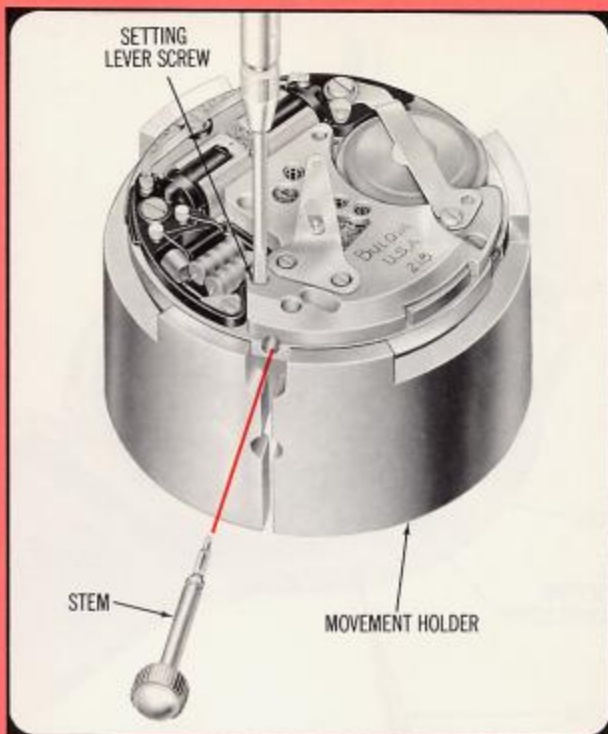

Fig. 8
- b. Loosen setting lever screw 2 turns. (See Fig. 8.)